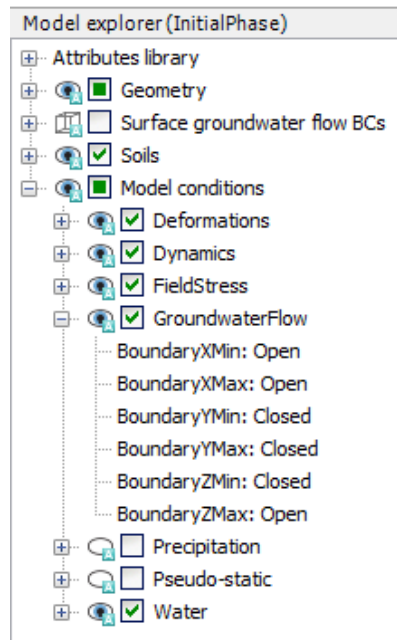

Figure 7.5 Boundary conditions for groundwater flow
- In the *GroundwaterFlow* subtree set *BoundaryYMin*, *BoundaryYMax* and *BoundaryZMin* to *Closed*. The remaining boundaries should be *Open* (Figure 7.5).